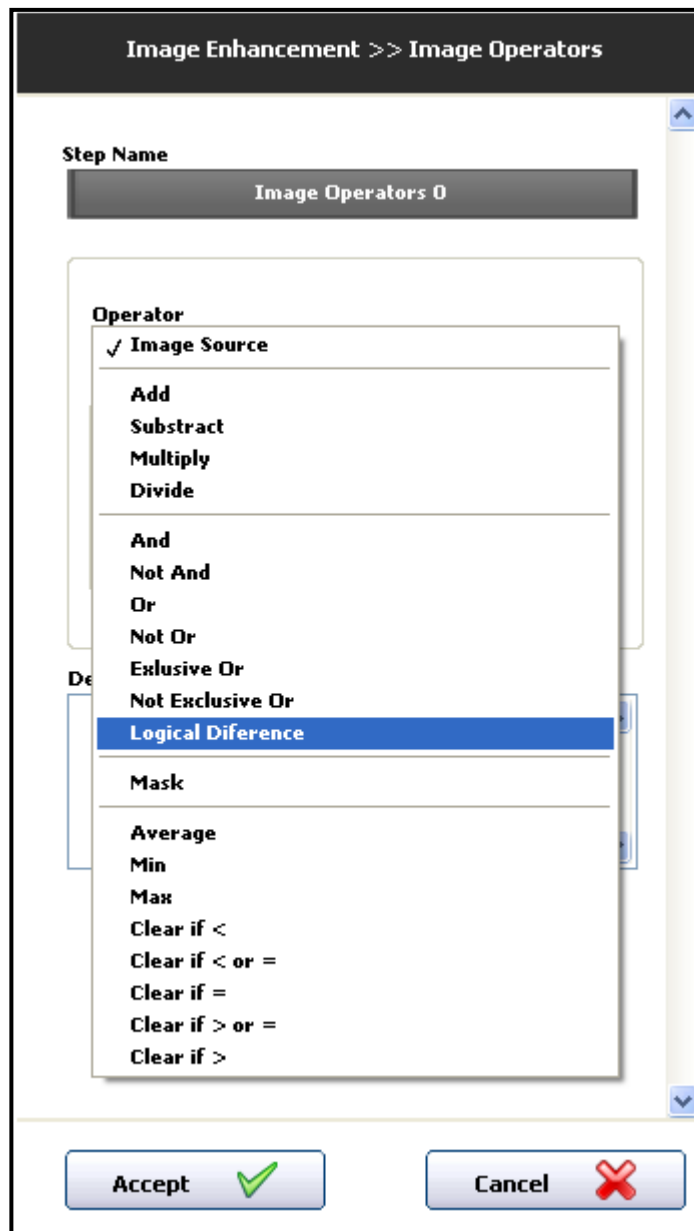

Figure 28. Select operator.
3. Select the operation type [Figure 28].